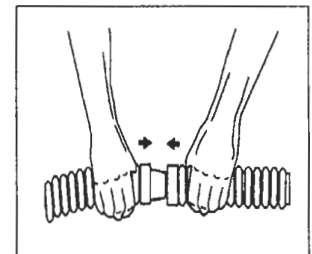

Figure 4
There are eleven (11) 32" connector hoses and one (1) 32" leader hose with a gray cuff. Connect the special cleaner hose sections together by pushing and twisting the tapered male connector end of each hose firmly into the female end of the adjacent hose sections (See Fig. 4). Depending on the size and shape of your pool, all hose sections might not be used. However, **the leader hose MUST ALWAYS be used or your cleaner will not operate properly.** It is not necessary to "Bottom Out" the connections, but they **MUST** be tight enough to prevent any air leaks. Wetting the hose ends will make it easier to connect the hose sections.